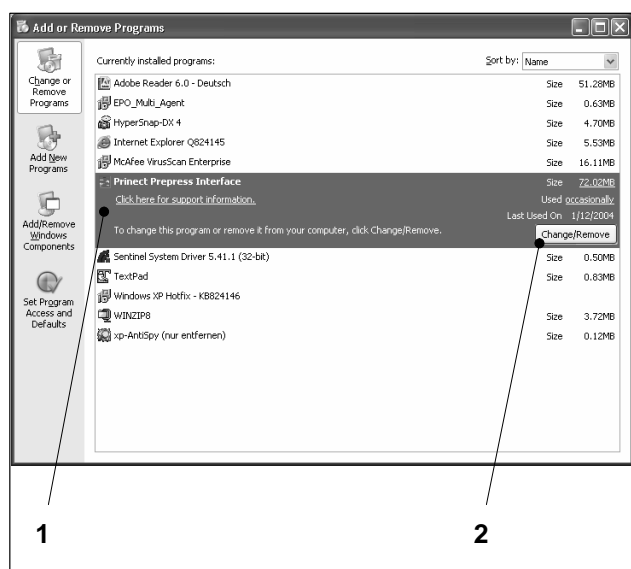
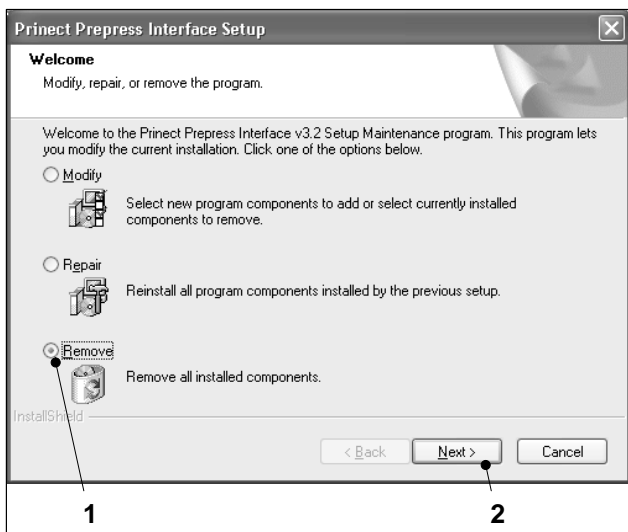
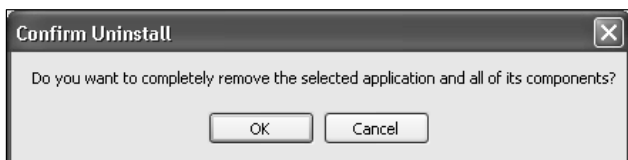

Fig. 3 Software dialog box
Fig. 4 Selection window for the uninstallation
Fig. 5 Safety query before previously installed program files are deleted
- Double-click on the *Software* icon (Fig. 2). The Windows *Software* dialog box opens (Fig. 3).
- In the *Software* dialog box, select the Prinect Prepress Interface program (Fig. 3/1).
- Click on the *Add/Remove* button (Fig. 3/2). Shortly afterwards the dialog box shown in Fig. 4 opens.
5. Select the radio button *Remove* (Fig. 4).
6. Click on the *Next* button (Fig. 4/2). The safety query "Confirm Uninstall" opens (Fig. 5).
7. To uninstall Princt Prepress Interface, click on *OK* (Fig. 5). The *Setup Status* dialog box opens.